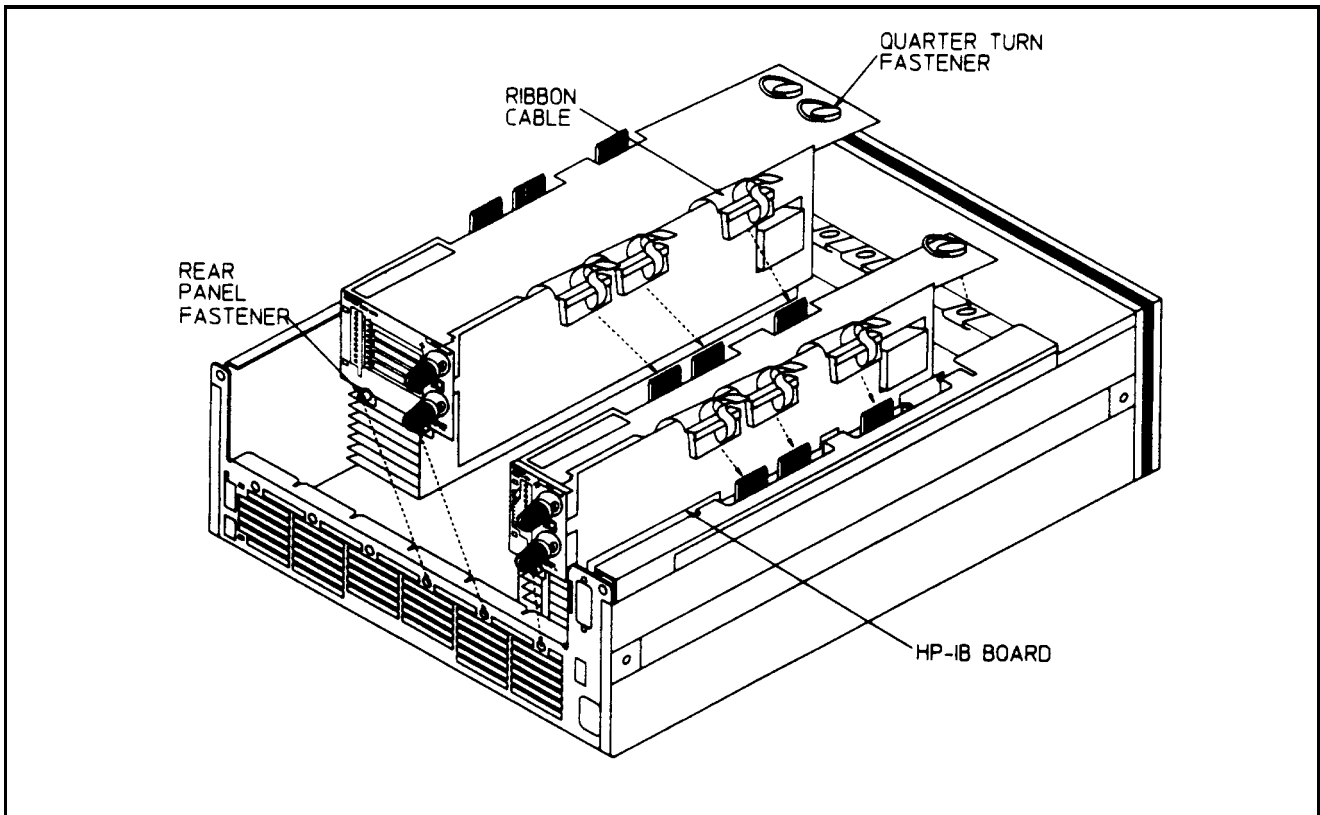

Figure 3-2. Limiting Modules In a HP
4. Start installing the modules in the slot next to the HP-IB board (see Figure 3-2.)